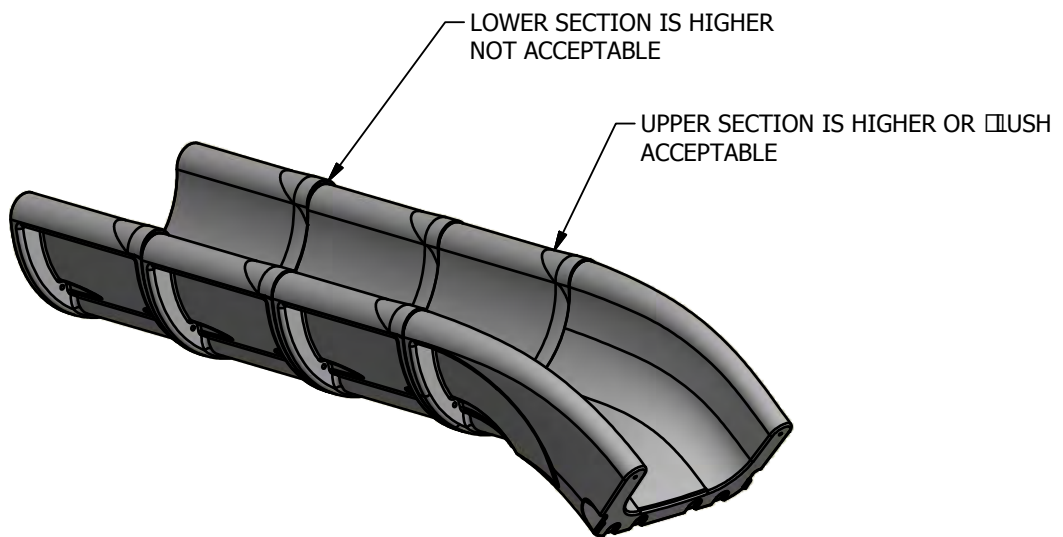

FIGURE 2
STEP 8: It is important that each seam between slide sections are as tight as possible. Be sure that the seams are flush or higher on the upper piece. **SEE FIGURE 2.**